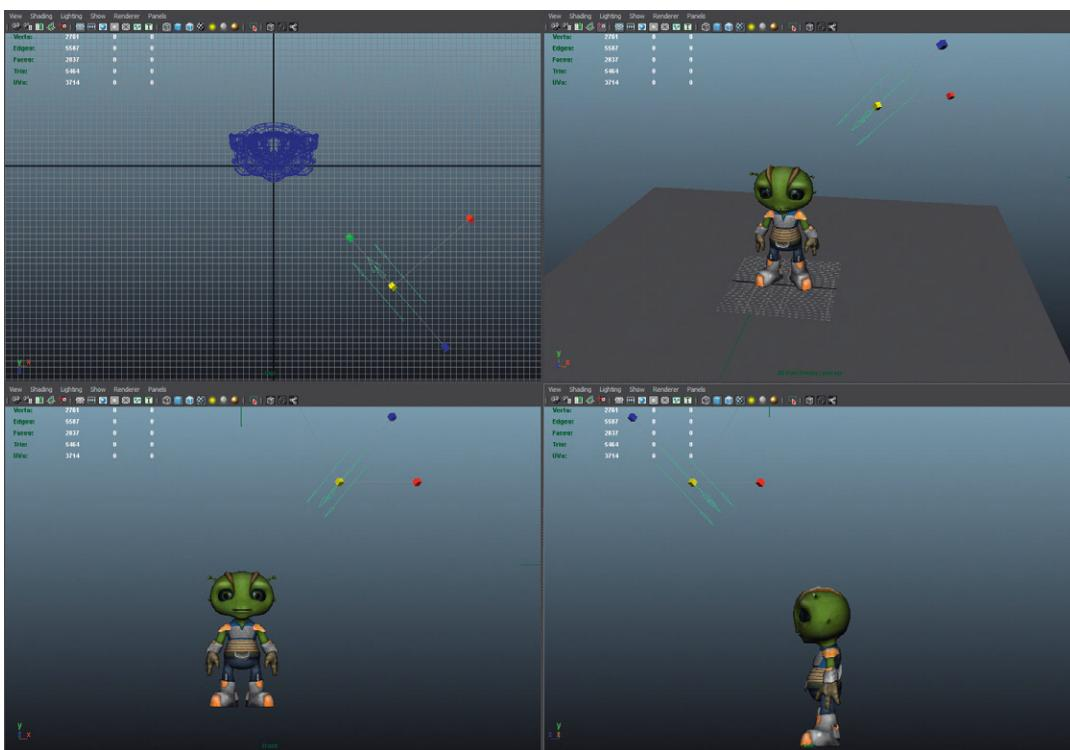

FIG. 7.45 Key Light position.
- Step 3: Create a Directional Light and position it to light the characters face. The idea is that the instrument needs to be higher than the character and pointed down. The rough position I chose is shown in Fig. 7.45.